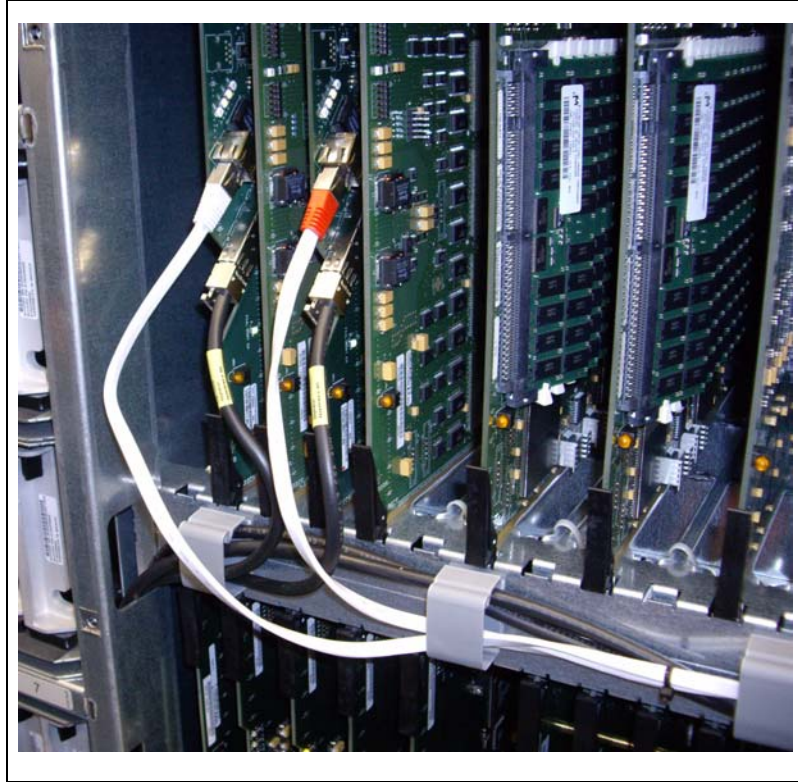

Figure 26. IFF3 Card Connections
3. Connect the Ethernet cables and Fibre Channel Cables as shown in Figure 26.
Note that in Figure 26, the white cables from the wiring harness connect to the Ethernet port on each card, while the black cables connect to the Fibre Channel SFP on each card.